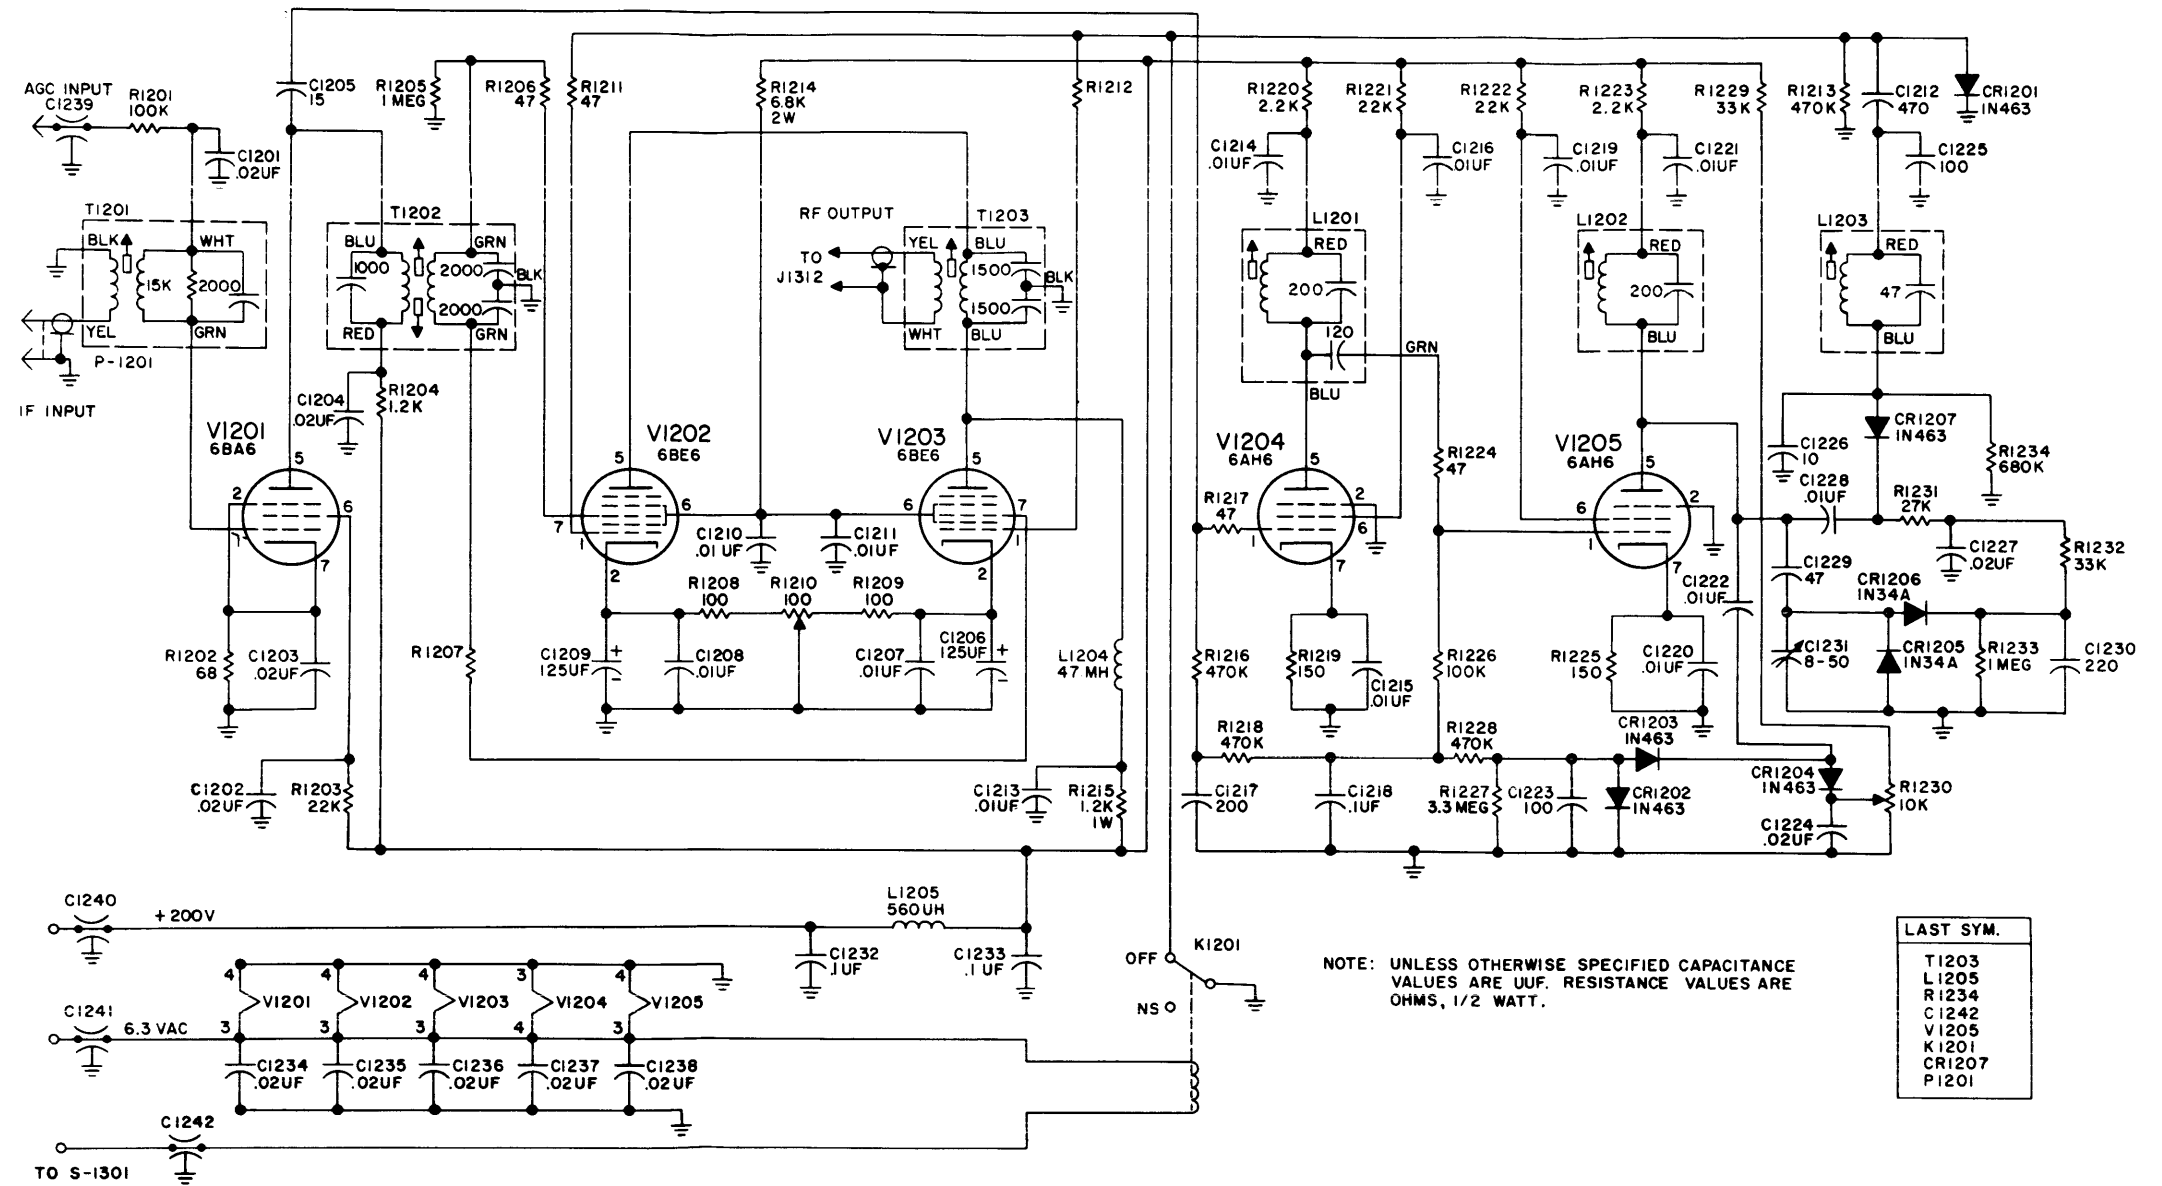
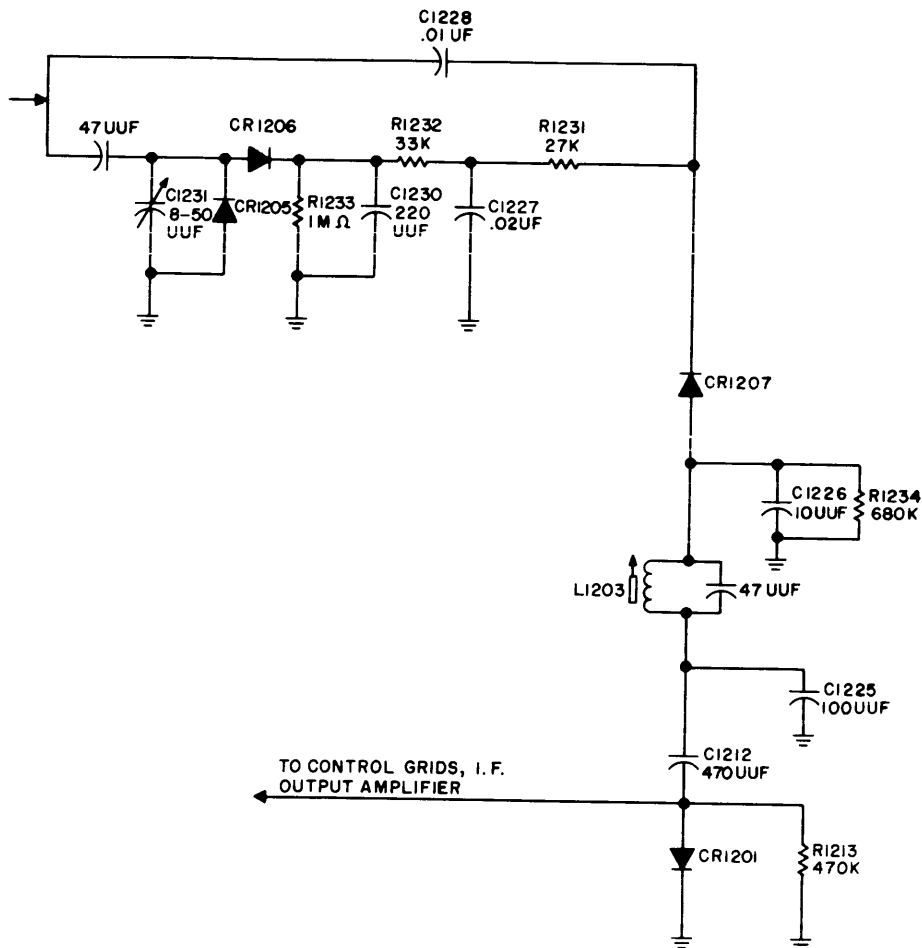

Figure 4-6. HFR-1/N, Schematic Diagram
Figure 4-7. Pulse Detector and Spike Generator, Simplified Schematic Diagram
a. **1.75 MC IF OUTPUT AMPLIFIER.** See figure 4-6. The IF output amplifier comprises amplifiers V1201, V1202, and V1203; and transformers T1201, T1202, and T1203. 1.75 mc first IF (with full band-pass) from mixer V1005 is coupled to V1201 grid by transformer T1201. A 15K ohm swamping resistor in the secondary of T1201 assures that full bandpass is preserved. The amplified output signal from V1201 is coupled to the grids of push-pull amplifiers V1202 and V1203 by transformer T1202, is amplified, and is coupled to 50 ohm output jack J1312 by transformer T1203. Control grids 1 of V1202 and V1203 are configured to cut off these stages when negative spikes are received from the noise silencer (refer to paragraph 4-3,b). These control grids do not affect the operation of V1202 or V1203 except in the presence of impulse noise.
b. **NOISE SILENCER.** See figure 4-6. The noise silencer comprises high gain cascade connected amplifiers V1204 and V1205; a self contained AGC system containing diodes CR1202, CR1203, and CR1204; and a pulse detector and spike generator circuit containing diodes CR1205, CR1206, and CR1207. V1204 and V1205 stages contain their own AGC loop to improve stability. The output of IF amplifier V1201 is coupled to the grid of V1204 by capacitor C1205, amplified by V1204 and V1205, and applied to the AGC loop and to the pulse detector and spike generator circuit. Figure 4-7 is a simplified schematic diagram of the pulse detector and spike generator.